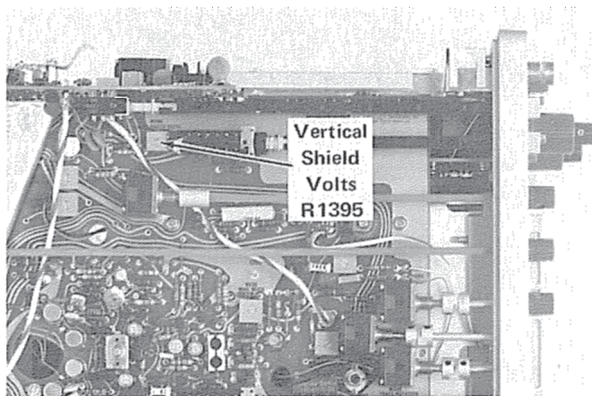

Fig. 5-6. Location of Vertical Shield Voltage adjustment.
- f. ADJUST—Vertical Shield Volts adjustment, R1395 (see Fig. 5-6), for a meter reading equal to the voltage calculated in step 11-c.